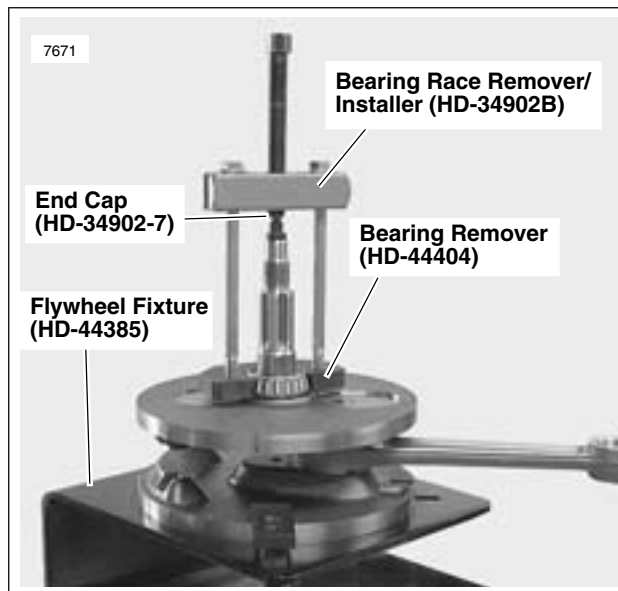

Figure 3-118. Removing Sprocket Shaft Roller Bearing
11. See Figure 3-118. Place flywheel assembly in FLYWHEEL SUPPORT FIXTURE (Part No. HD-44385). Pull sprocket shaft bearing with SPROCKET SHAFT INNER